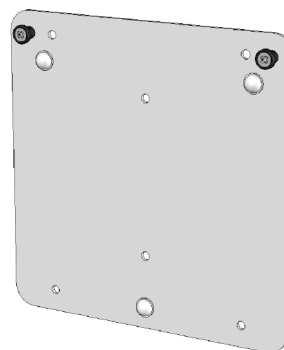

Fig 1.
3. Attach the bracket plate to the wall using appropriate fixings (Please consult the safety notes section of this user manual). **See Fig 1.**